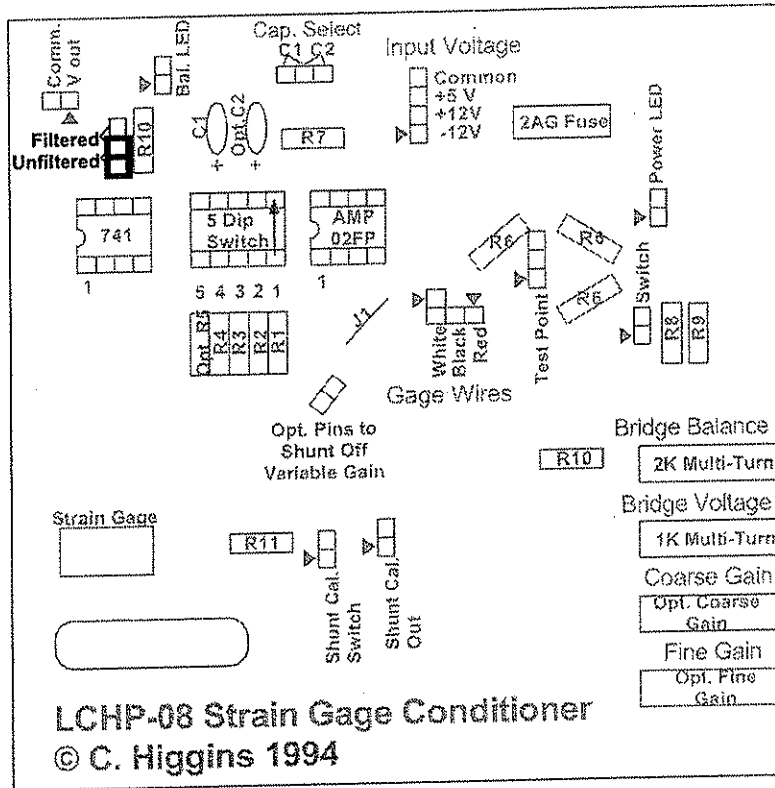

Fig. 16b - Position of shunt to switch filter off.
Where C (F) is the capacitance and R (Ω) is the resistance of the filter components. The filter response for the SGC is such that for experiments with frequencies above 10 Hz, there is little or no signal attenuation. This permits application of the SGC to fatigue tests operating in the lower frequency range. Though it is recommended the filter be used, it can be switched off if necessary by simply moving a single shunt to the position illustrated in Fig. 16b.